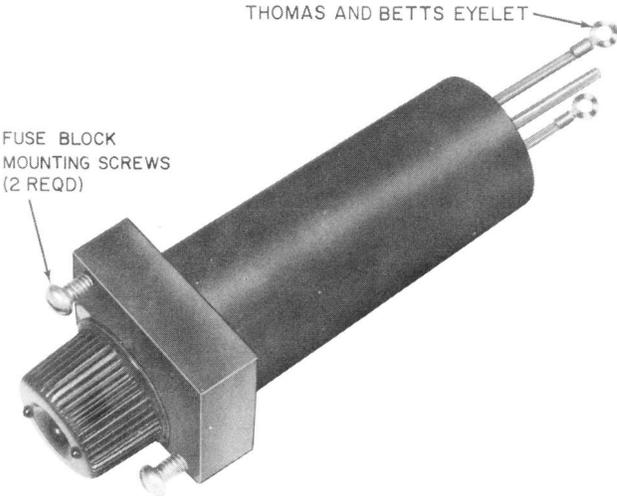

Fig. 20—18A Fuse Block
4.02 To replace the 18A fuse block shown in Figure 20, determine the type of test/talk panel and refer to the appropriate paragraph, 3.02 through 3.06, to determine the means of accessing the internal components. Instructions for replacing the 18A fuse block follows: